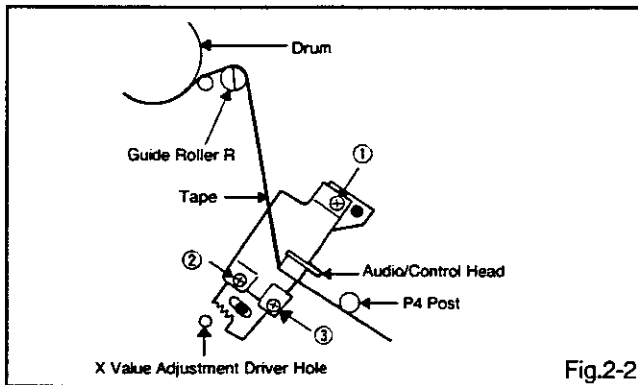
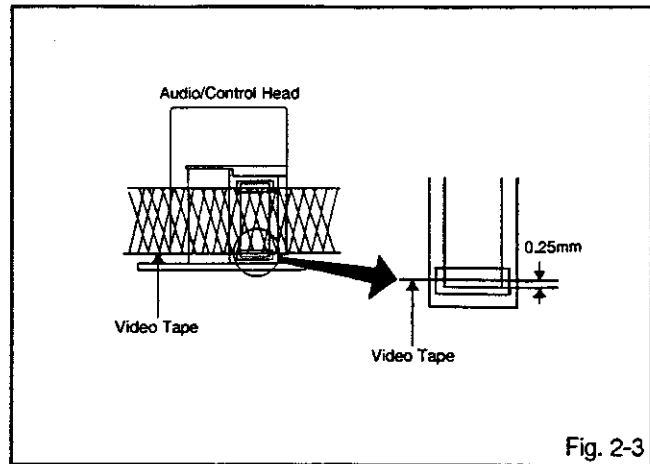

Fig.2-2
Fig. 2-3
2. Confirm that there is no crease on the tape between the P4 post and guide roller (R) and the tape is running smoothly. (It is absolutely impossible to get satisfactory sound if the tape is distorted between the A/C head and P4 post.)
3. If the tape still does not run smoothly, turn the screw ① and adjust the tilt of the A/C head. (Refer to Fig. 2-2)
2. Turn the screw ② slowly to change the azimuth of the A/C head. Adjust the height so that the audio output becomes maximum. (Refer to Fig. 2-2)
3. Adjust the screw ③, (Refer to Fig. 2-2) until the height of the A/C head reaches the position against the tape as shown in Fig. 2-3.
4. When the control head height is not fit. (When you must turn the screw more than 45 degrees), Turn all of the screws ①, ② and ③ to the same degrees. Then confirm the angle of the audio/control head and adjust again.